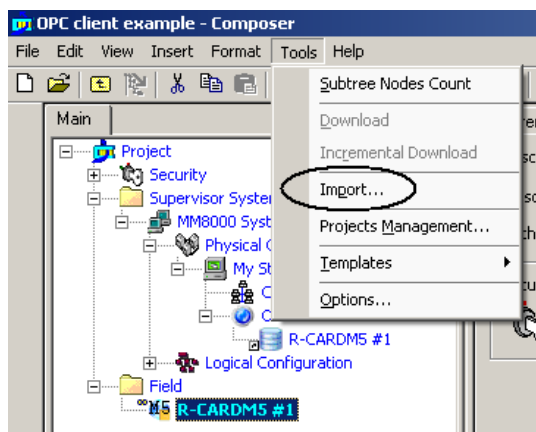

Fig. 13 Importing OPC items and associated points
- Select the R-Card subsystem node and then the menu: Tools → Import (Fig. 13)